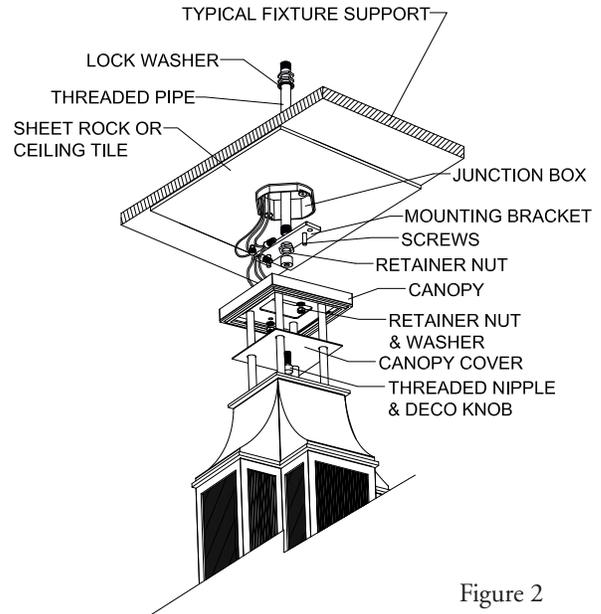

Figure 2
Step 2 Locate outlet box and with the power turned off at the circuit attach the mounting bracket to the outlet box. Include a structural member such as a steel angle bracket or stud that is secured into the ceiling and meets local building codes. Route the steel pipe up and through the center of the outlet box and through the additional support member. The threaded pipe can be cut to length. Use additional hardware to fasten the pipe and mounting bracket securely to the ceiling. (See Figure 2)
Step 6 Once the fixture is mounted securely into position make the electrical connections. Make wire connections using twist-on connectors: connect the black fixture wire to the hot supply wire (typically black); connect the white fixture wire to the neutral supply wire (typically white); connect the copper fixture wire to the ground wire or ground terminal at the outlet box, push field wiring connections into the junction box. (See Figures 2 and 3)